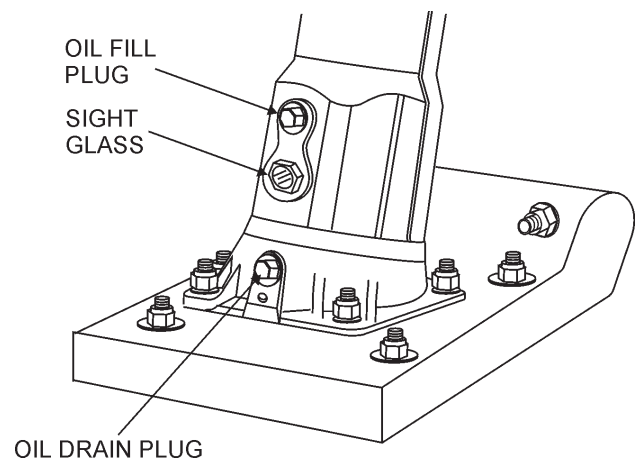

Figure 15. Oil Drain Plug
- Drain oil reservoir on foot housing (Figure 15). Refill with approximately 1.7 pt. (800cc) of 10W-30 motor oil. Oil should be midway in sight glass. Break in oil should be changed after first 50 hours.